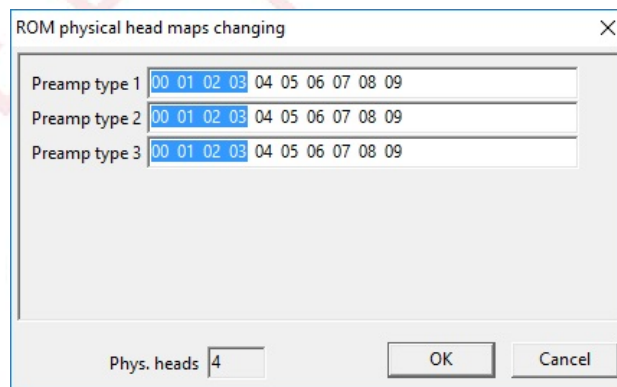

Fig. 7.13
- Correct the head maps in ROM. The tool consequently supports the maps for conversion of physical head numbers to the preamplifier channel selection codes (editing of all available maps) and the map for conversion of logical head numbers to physical ones. For details please refer to the *section 6.6.3.1, Heads maps in Seagate F3 drives*. Editing of the maps for conversion of physical head numbers to the preamplifier channel selection codes is performed in the dialog shown in Fig. 7.13.